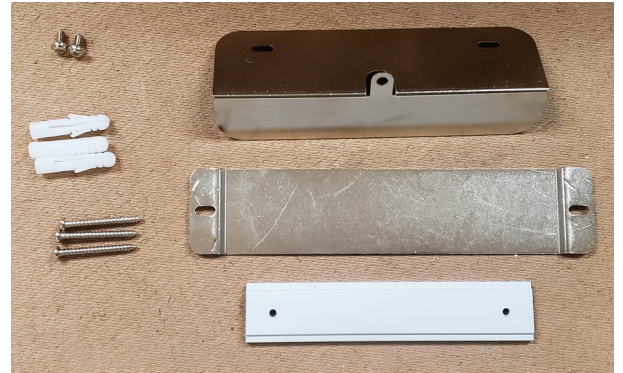

figure 10-1
- a. First, remove the contents from the LM-WM packaged bag. **Fig 10-1.**